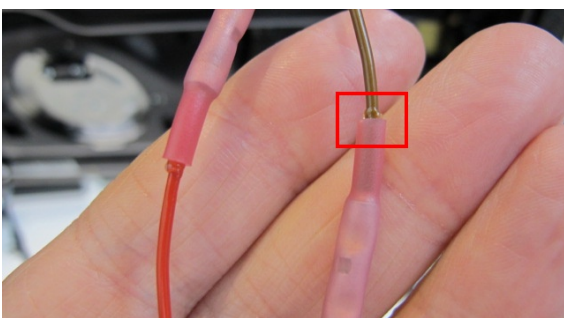

Figure 33
- Using heat gun WT10078 or similar carefully heat and shrink both ends of each splice, the splice should be heated from the centre outwards until it is fully sealed which is indicated by the flow of adhesive from both ends Figure 33 shows an example of this